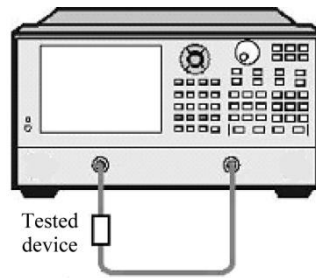

Fig. 8.21 Connection in Linear Phase Deviation Measurement
- Connect the tested device as shown in Fig. 8.21.